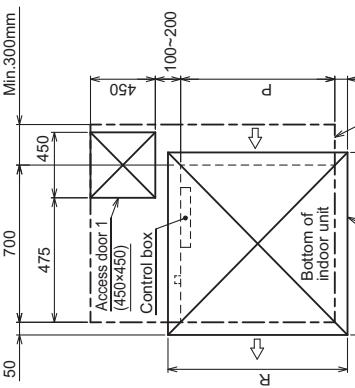

Fig.4 (Viewed from the direction of the arrow B)
· Create access door 1 diagonally below the control box and access door 3 below the unit as shown in Fig.4.
- Create access door 1 diagonally below the control box and access door 3 below the unit as shown in Fig.4.